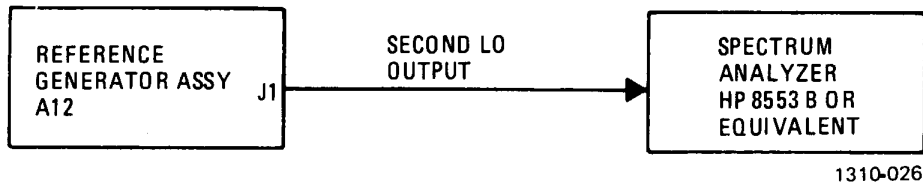

Figure 3. 40 MHz Outputs Adjustment
- a. Connect equipment as shown in figure 3.